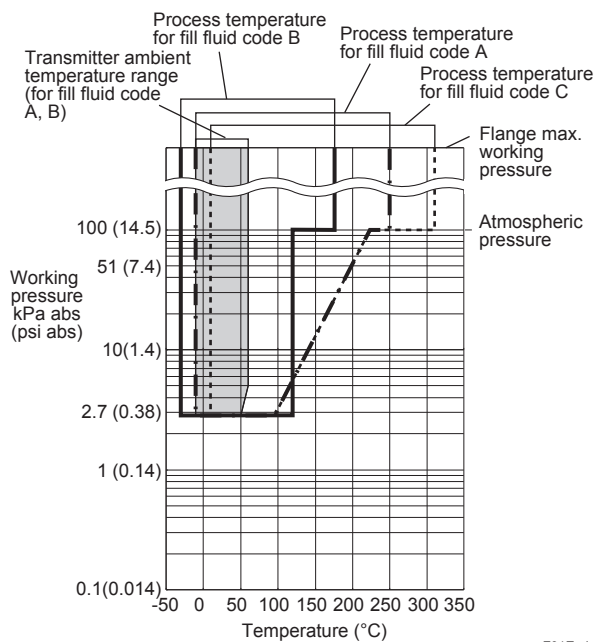

Figure 1-1. Working Pressure and Process Temperature (Fill fluid: silicone oil for general and high temperature use)
For atmospheric pressure or below, see figure 1-1, 1-2, 1-3, 1-4, and 1-5.
*1: See figure 1-1, 1-2, 1-3, 1-4, and 1-5 'Working Pressure and Process Temperature.'